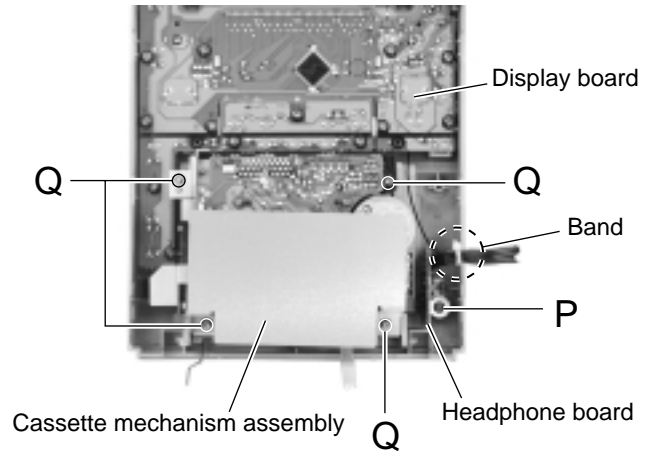

Fig.29
(See Fig.29)**
■ Removing the cassette mechanism assembly (See Fig.29 and 30)